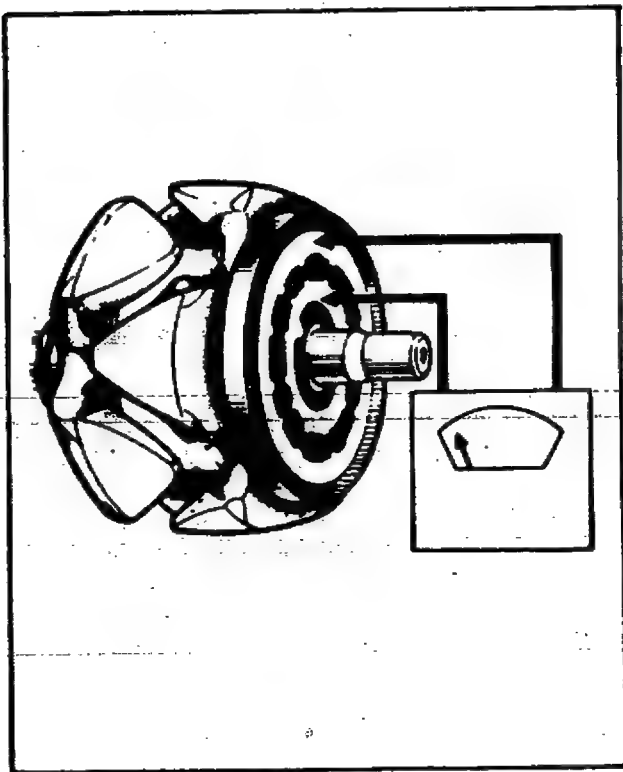
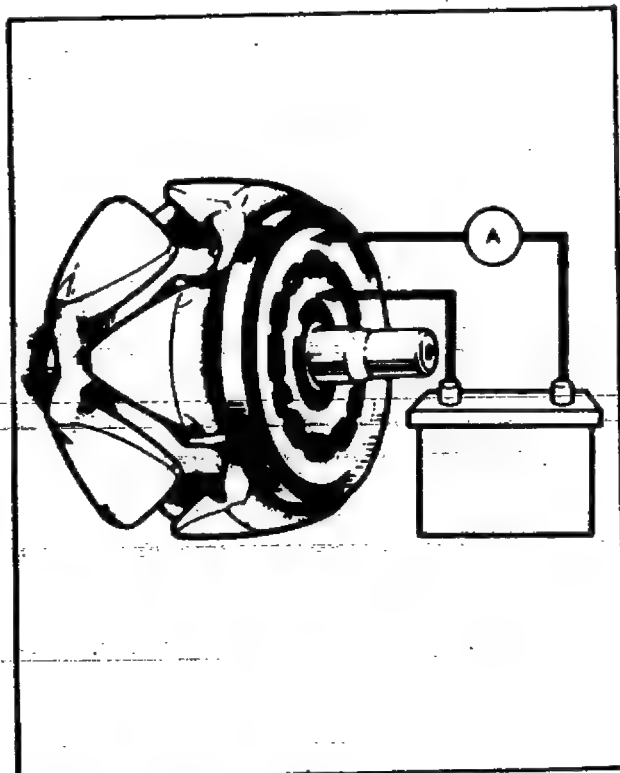

Fig. 23 – Measuring Rotor Winding Resistance with Ohmmeter (Alternator dismantled)
Fig. 24 – Measuring Rotor Winding Resistance with Battery and Ammeter (Alternator dismantled)
1. Test the rotor winding by connecting either an ohmmeter (Fig. 23) or the appropriate battery supply (Fig. 24) between the slip-rings. The reading of resistance should be 3.8 ohms. If the alternative test has been made, the value of the current should be approximately 3.2 amperes.